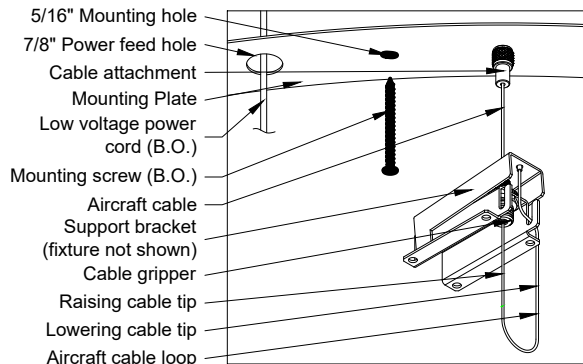

Fig. 4. Support mechanism and feed location.
2. Fixture mounted surface should have structural integrity to support fixture weight. Fixture support plate (see Fig. 4) has 7/8" hole for low voltage power cord (by others).
3. Surface mounted fixture has special support mechanism that allows to raise and lower fixture with aircraft support cables. Fixture has at least (3) support brackets. Each bracket
6. Locate aircraft raising tips on the cable loops. Raising tip is going through cable gripper mounted inside each support bracket (Fig. 4). Hold raising cable tip down and slightly lift this side of the housing at the same time. Gripper will hold housing in raised position. Repeat the same procedure for all support brackets moving around the housing till housing is seating flat against ceiling with minimum gaps, and support plate located inside the housing. Housing can be lowered if needed by pulling down lowering cable tip (Fig. 4). Make sure to support housing at the bracket while lowering. Housing